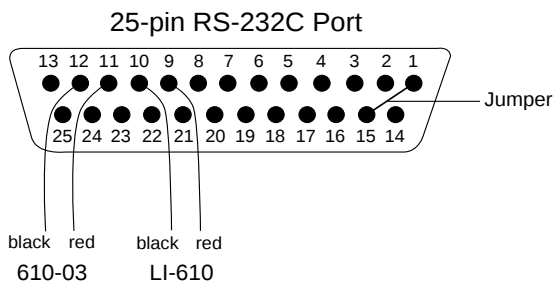

Figure 3-3. Connection of the 610-03 and LI-610 to the LI-6200 25-pin RS-232C port (shown connected to spare input channels 1 and 2).
2. Build a male 25-pin RS-232C connector with the configuration shown in Figure 3-3. Connect the LI-610 red lead to pin 9, and the black lead to pin 10; connect the 610-03 red lead to pin 11, and the black lead to pin 12. Use a jumper to connect the ground from channel 3 (pin 15) to chassis ground (pin 1) to ensure that the LI-6200, LI-610 and 610-03 all share a common ground.